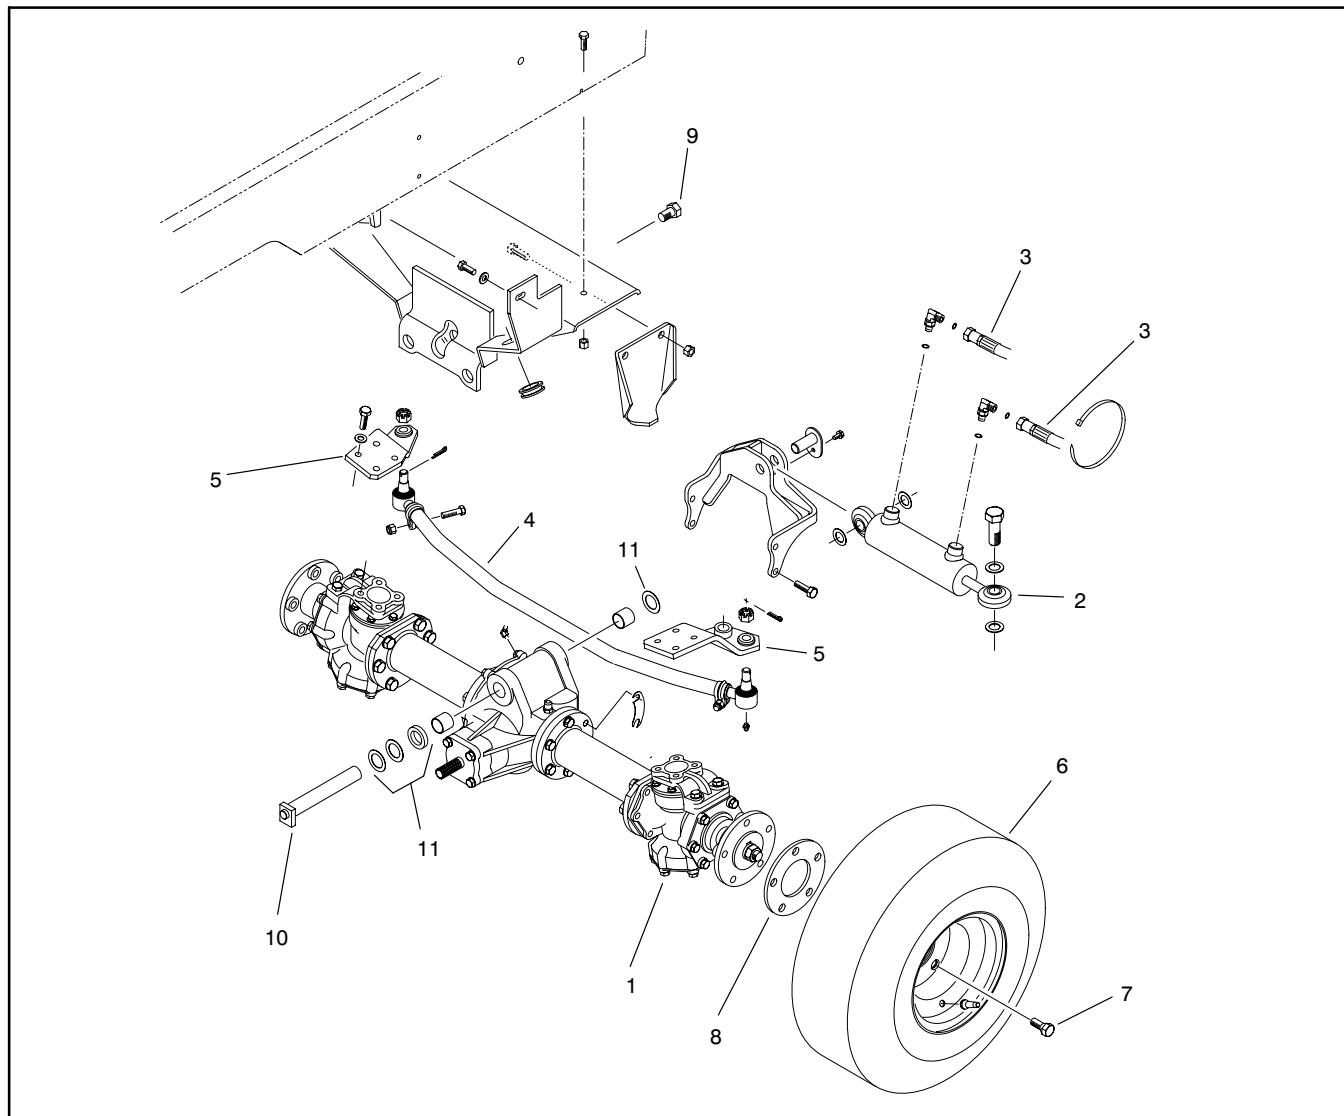

Figure 10
7. Remove the capscrew securing the end of the axle pivot pin to the chassis (Fig. 10).
2. Install washer(s) and axle pivot pin. Use medium strength Loctite® thread locker on the capscrew and secure the axle pivot pin in place (Fig. 10).
9. Remove the steering arms (Fig. 10).